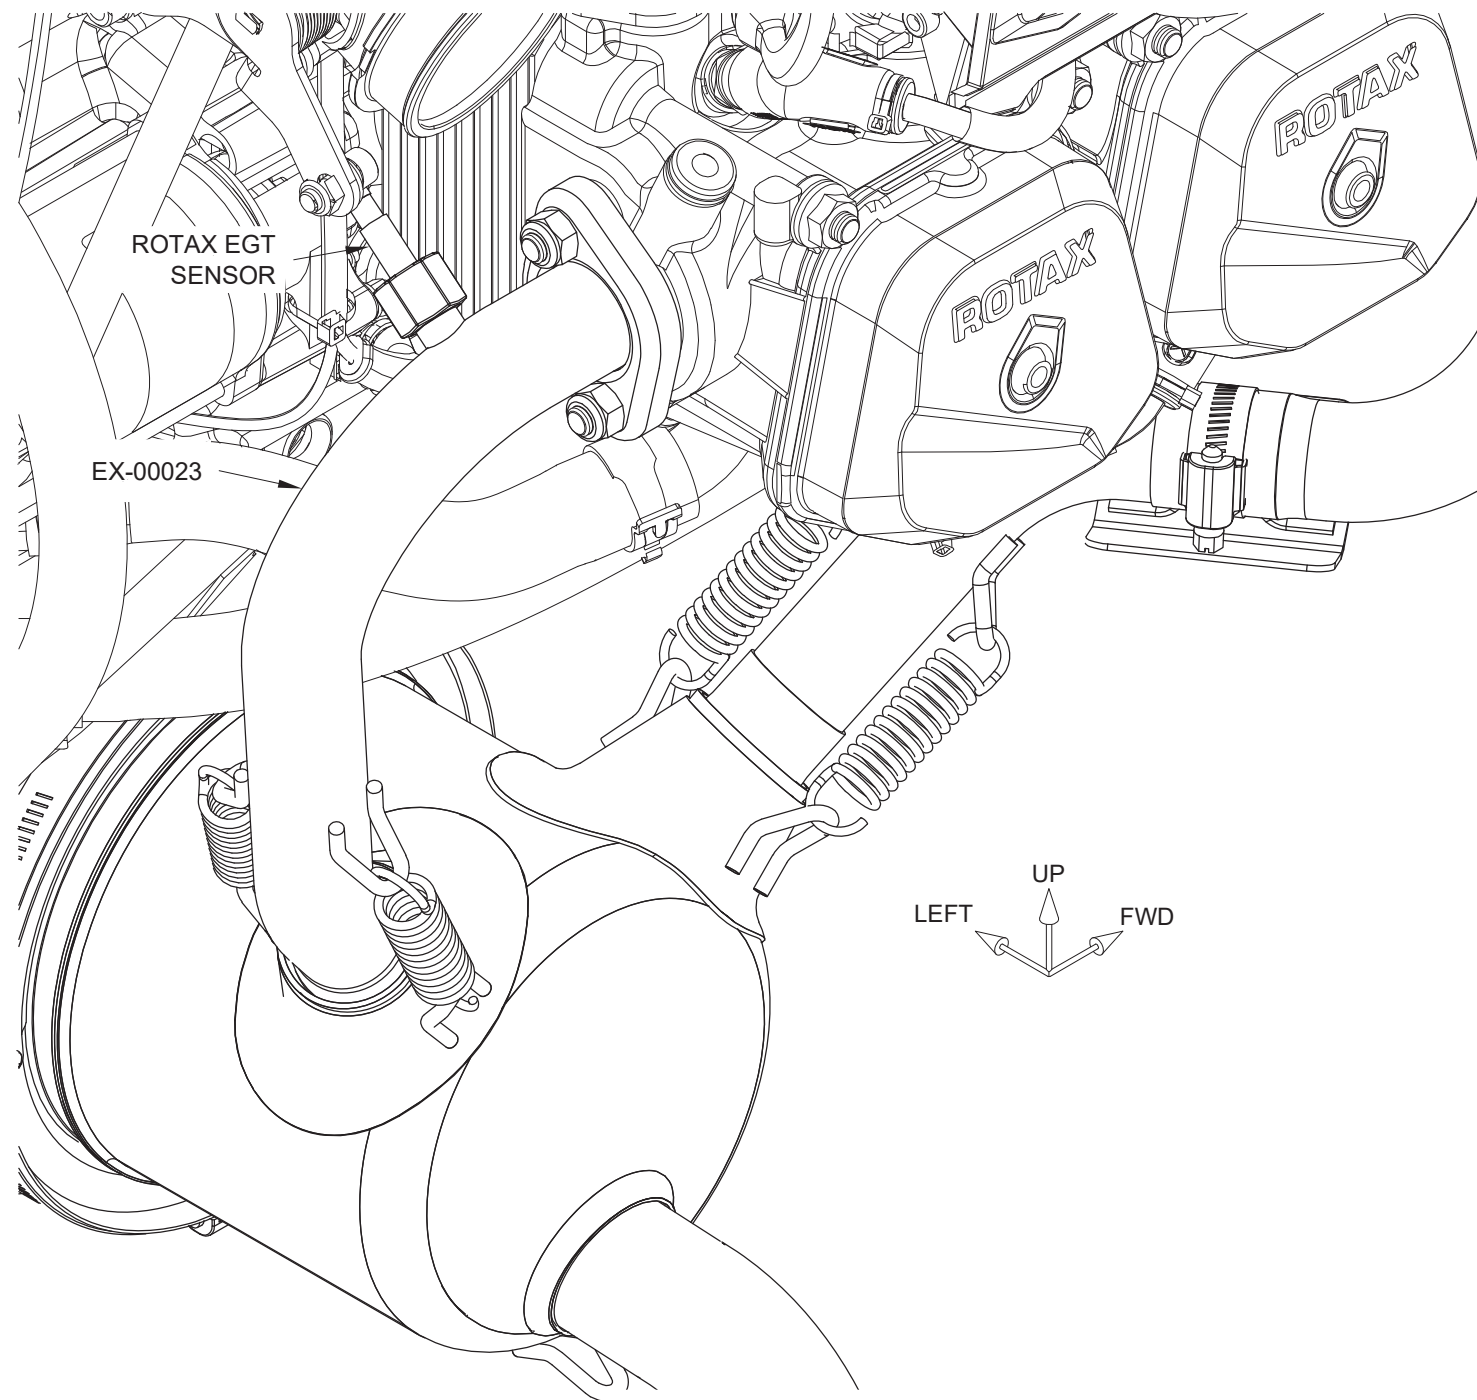

FIGURE 1:
Step 2: Install the Cylinder #3 EGT sensor into the Cylinder #3 exhaust as shown in Figure 1. Ensure the sensor wires are not interfering with other components. Torque the EGT sensor to the value found in the Rotax 912iS Maintenance Manual, Section 76-70-00.